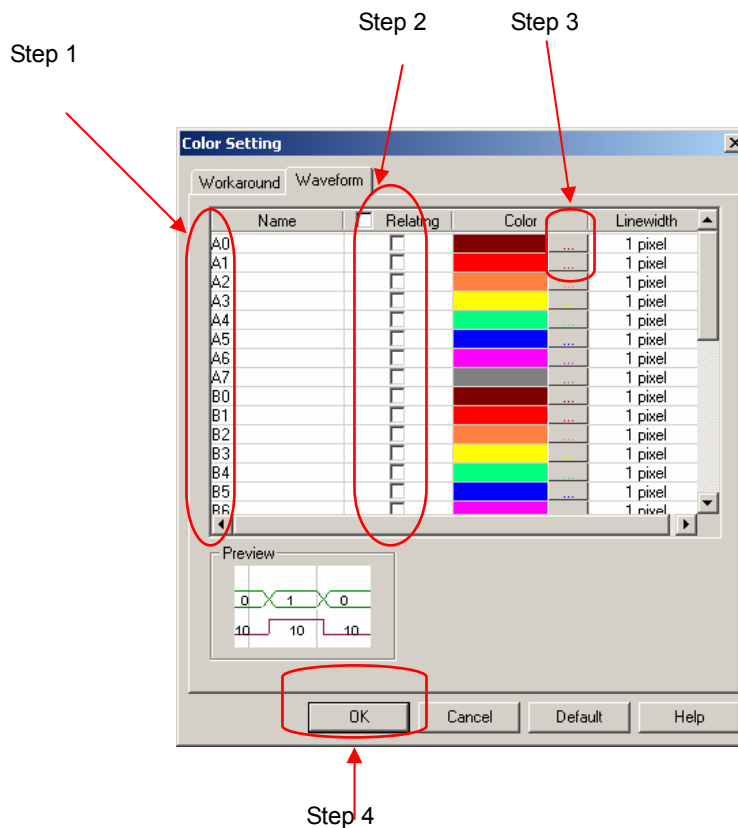

Fig 3-157: Stepwise Illustration of Changing **Waveform** Colors
Foreground color refers to the color of the output signal lines in the Waveform Display Area. *Fig3-157* presents how to change colors of a signal or some signals. Repeat the following procedures if users need to change colors of many signals.
Step 3: Choose a color by following the method shown in Fig 3-157.